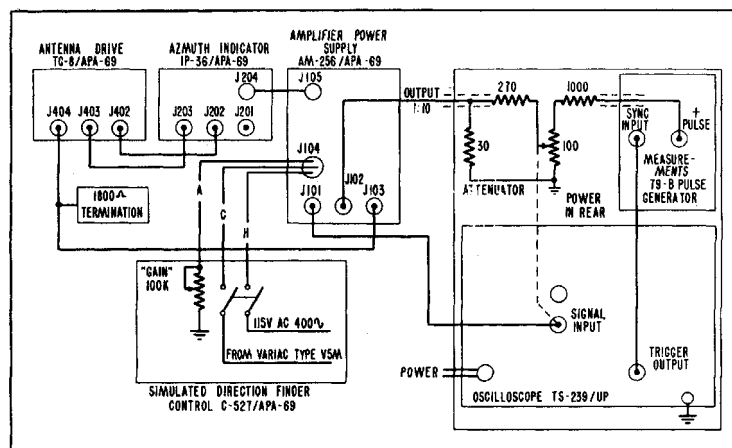

Figure 9-2. Amplifier Power Supply AM-256/APA-69, Reassembly Test Jig
9-16. This equipment must be assembled into a test jig as illustrated in figure 9-2.
9-19. OSCILLOSCOPE SETUP. The oscilloscope connection shown with dotted lines in figure 9-2 is used in establishing the output of the Measurements Pulse Generator type 79-B. An examination of the test jig figure and accompanying text, paragraphs 6-5 through 6-8, Handbook of Service Instructions, will show the similarity between this test and the troubleshooting procedure. Using cables and connections as indicated therein, fabricate and connect the 1: 10 attenuator required.
c. Now instead of the attenuator output line connect the potentiometer line (the dotted line on figure 9-2) to J102. This connects the pulse generator peak output of 1.0 volt into the amplifier power supply.
a. Connect the components required by figure 9-2. Make the necessary power connections and interconnections (figure 7-17, Handbook Service Instructions) and check all wiring.